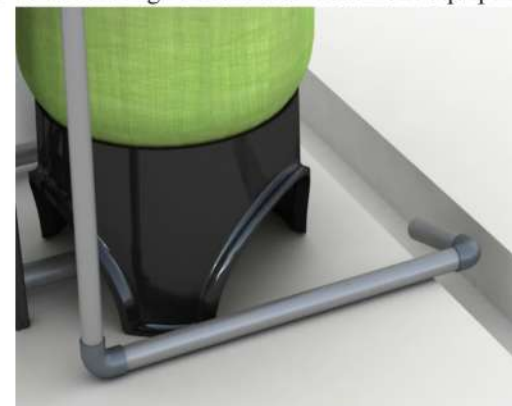

Figure 1-4
- If the valve belongs to time clock type (F111A1, F111B1), there are no step ②.
④ Install drain pipeline (If no special requirement, the standard DLFC is No.7704)
- Glue the drain outlet with UPVC (DN40). Put drain outlet pipe to sewer as showed in the Figure 1-4.